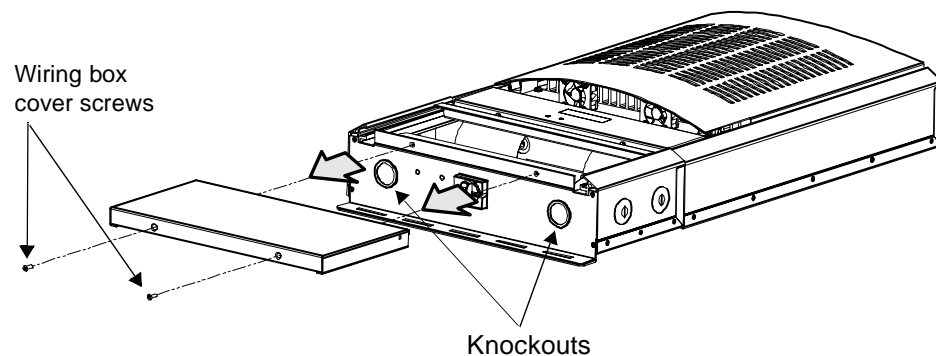

Figure 3-1 Removing the Wiring Box Cover
1. Using a Phillips screwdriver, remove the two screws on the bottom side of the wiring box and set in a safe place (see Figure 3-1 for location of screws).